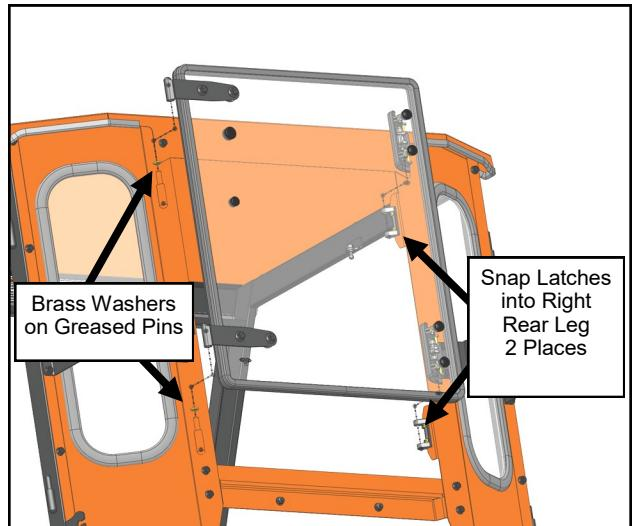

Fig. 9.1 (Rear Window)
- 9.1 Grease the hinge pins for the rear window, and slide on greased brass washers (one washer per pin). See Figure 9.1.